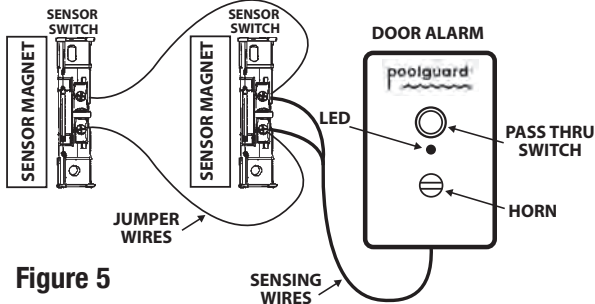

Figure 5
- E. If you purchased the **OPTIONAL** Screen Door Kit see section 6. (Figure 5)